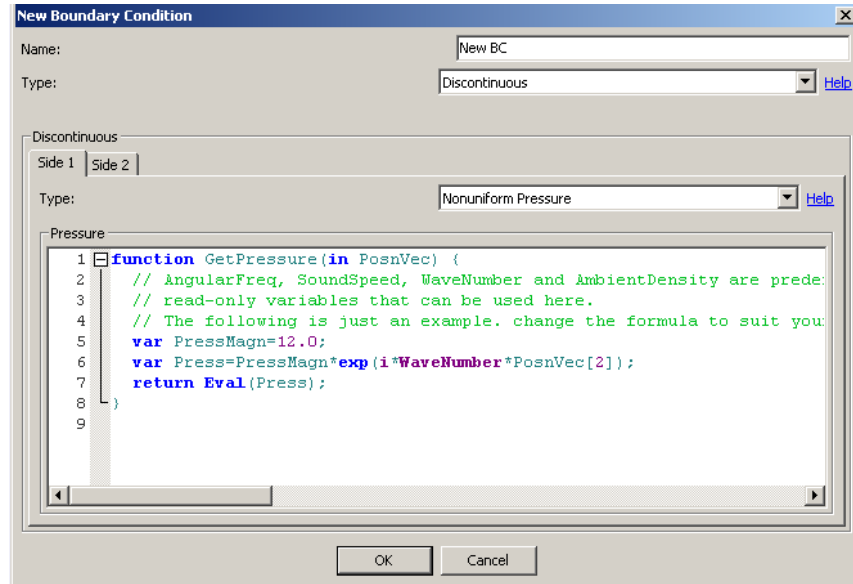

Figure 6.37 Discontinuous Non-Uniform Pressure
6.6.10.3. Non-uniform Pressure This Boundary Condition is applied on the side of the element where pressure varies with position. The pressure is defined in the script by the function *GetPressure*, which takes in the predefined position vector *PosnVec* as the argument. Other predefined variables that can be used in the script are *AngularFreq* (ω), *GetSoundSpeed*("MaterialName") (c), *GetWaveNumber*("MaterialName") ($k = \frac{\omega}{c}$), and *GetAmbientDensity*("MaterialName") (ρ). (Figure 6.37)